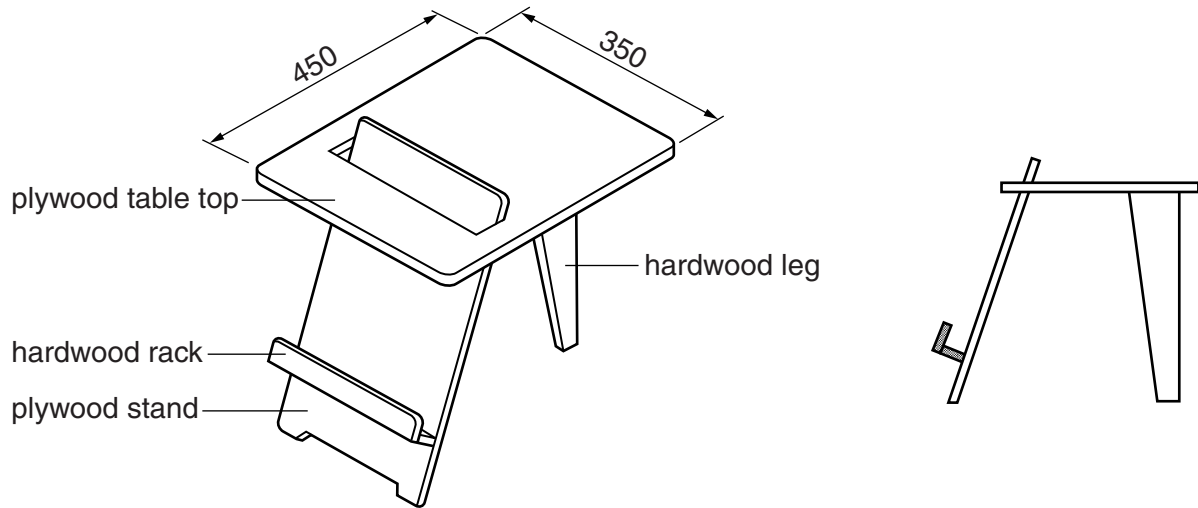

Fig. 7
- 11 Fig. 7 shows views of a small table that includes a magazine rack. The product is designed as flat-pack for self-assembly.
(c) Use sketches and notes to show how the stand could be joined permanently to the table top as shown in Fig. 7. Additional materials may be used.